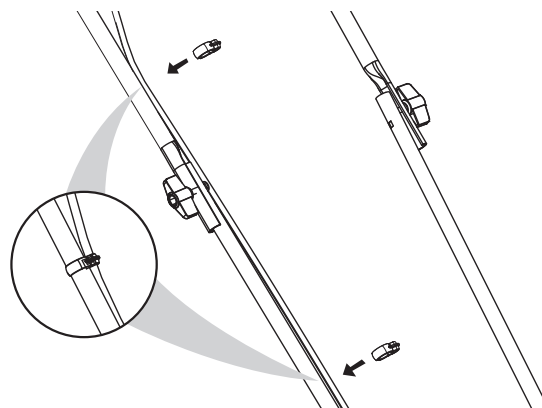

Fig. 1c
4. Clip the cable clip on the handle. Clip the cord into the cable clip (Fig. 1c).